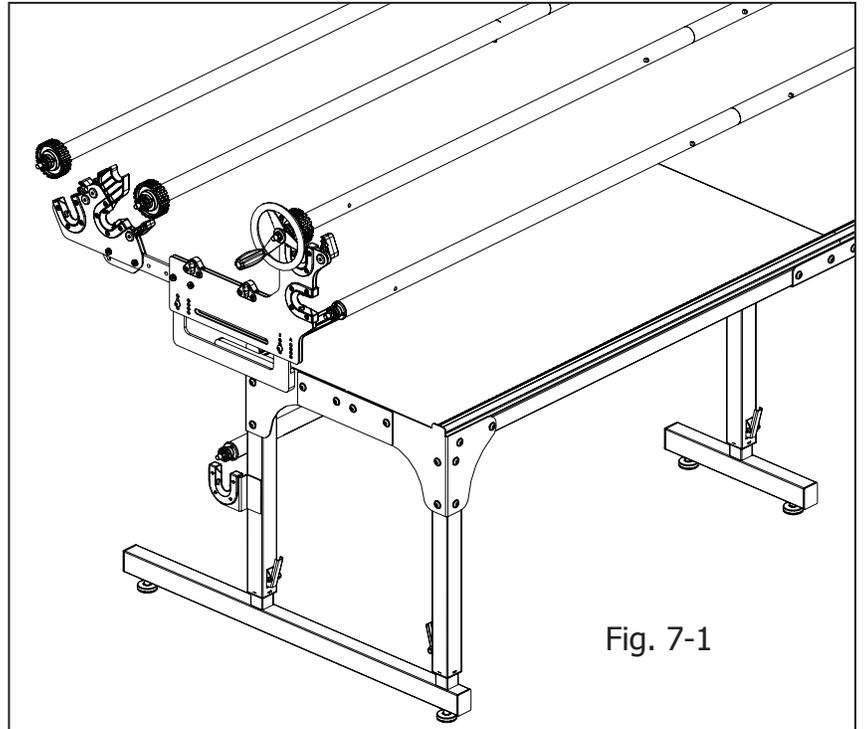

Fig. 7-1
**7-1:** Place the poles on the frame, as shown in Fig. 7-1.